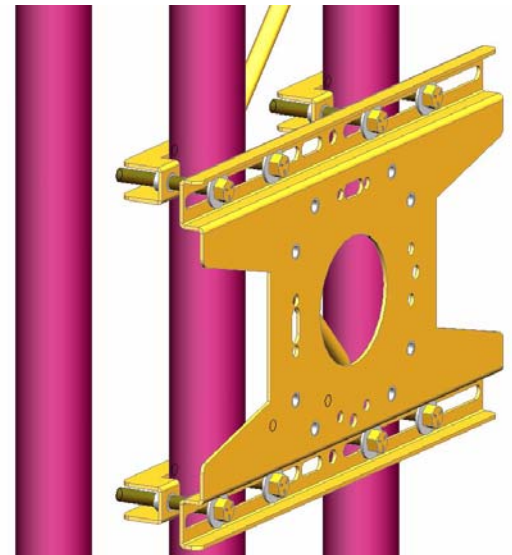

Figure 2. Anchor Back Plate
4. Securely anchor the back plate to the framework using Chief TPK accessory clamps or equivalent rated fasteners for the required load (see Figure 2).